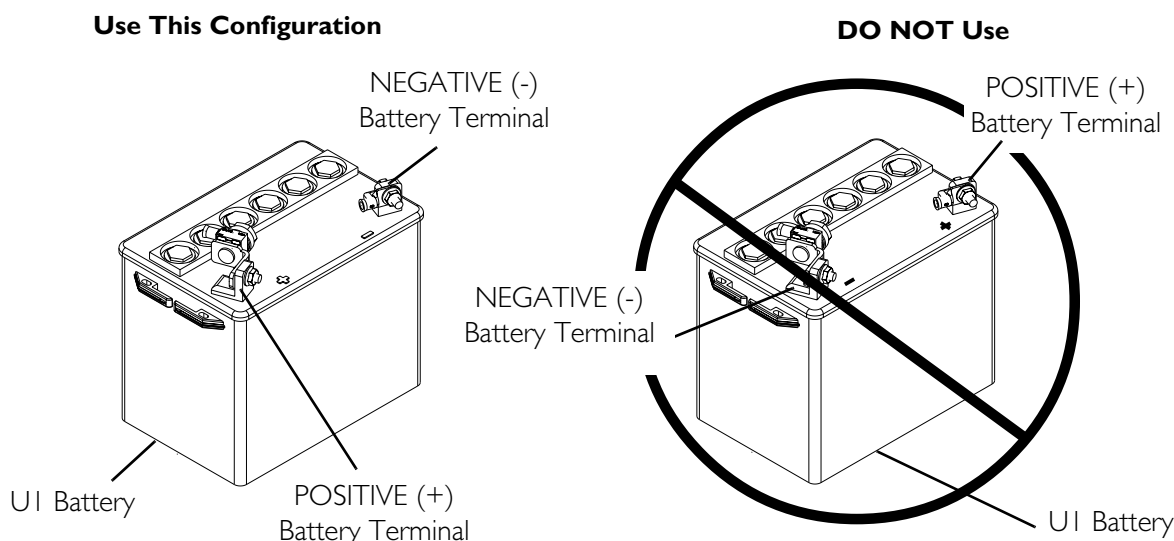

FIGURE 11.1 Using the Proper Batteries
NOTE: For this procedure, refer to FIGURE 11.1.
2. Visually draw a horizontal and vertical centerline through the middle of battery (FIGURE 11.1).
4. Visually inspect the battery to ensure the correct position of the POSITIVE and NEGATIVE terminals (FIGURE 11.1).